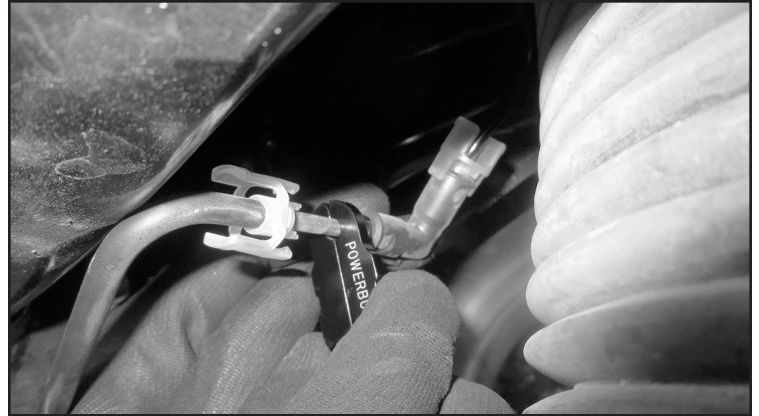

FIGURE 14 - STEP 20
20. Locate the air line at the upper air spring location. Using a 1/4" Air/fuel disconnect tool. Carefully disconnect the fitting to allow the air to deflate from the line/air spring. Do this for both sides. **SEE FIGURE 14**